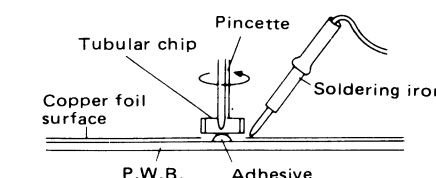

Figure 22-2
- Holding the chip with a pincette, take it off gently using the soldering iron's heat applied on each terminal of it. See Fig. 22-2.